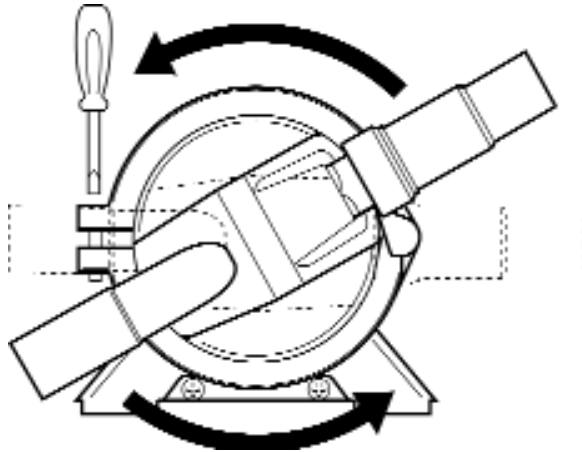

Fig 3 - Gulper® Installation
- FIG 3 GULPER® IC INSTALLATION
Loosen the screw, adjust and ensure diaphragm remains in place. Reposition the head to the required position (fig 3) and tighten the screw
- Unscrew the Ezi-clamp clamping ring to release the pump head - see Fig 3 - This will release the pump head, and allow easy access to the valves & diaphragm.